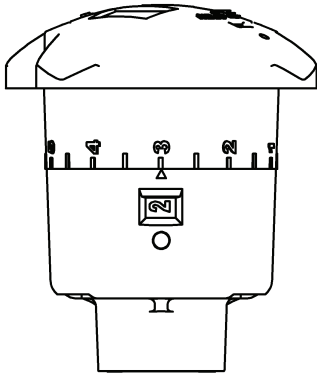

FIG. 11
- 5 FTV setting of 2.3 indicates that the valve is partially open (2.3 turns open). (FIG. 11)